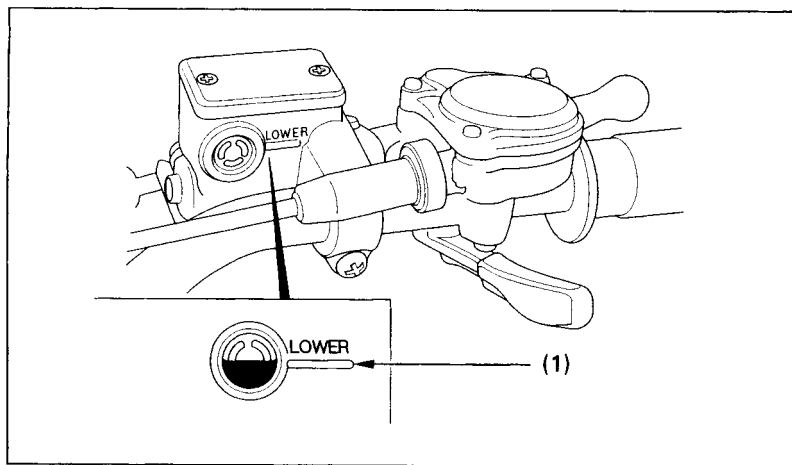

Fig. 4-23
Brake fluid must be added to the reservoir (Fig. 4-23) whenever the fluid level approaches the lower level mark (1). Use only DOT 3 or 4 brake fluid and have it added by an authorized Honda dealer.